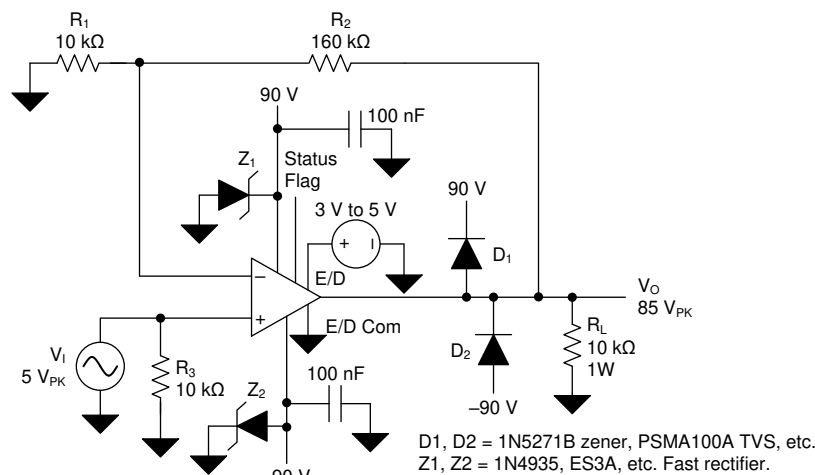

FIG 61. OPA462, High-Voltage Noninverting Amplifier,  $A_V = 17$  V/V
The OPA462 high-voltage op amp can be used in commonly applied op amp circuits, but with the added capability of allowing for the use of much higher supply voltages. A very common application of an op amp is that of a noninverting amplifier with a gain of 1 V/V or higher. FIG 61 shows the OPA462 in a noninverting configuration.
Figure 61 shows a noninverting circuit with a moderately high closed-loop gain ( $A_V$ ) of 17 V/V (24.6 dB). In this example, a 5- $V_{PK}$  ac signal is amplified to 85  $V_{PK}$  across a 10-k $\Omega$  load resistor connected to the output. The peak current for this application is 8.5 mA, and is well within the OPA462 output current capability. Higher output current, typically up to 30 mA, may be attained at the expense of the output swing to the supply rails. A  $\pm 90$ - $V_{DC}$  power supply is required for this configuration.
A potentially destructive mechanism is the back EMF transient that can be generated when driving an inductive load.  $D_1$ ,  $D_2$ ,  $Z_1$  and  $Z_2$  in Figure 61 have been added to the basic OPA462 amplifier circuit to provide protection in the event of back EMF. If the voltage at the OPA462 output attempts to momentarily rise above  $V+$ ,  $D_1$  becomes forward-biased and clamps the voltage between the output and  $V+$  pins. This clamp must be sufficient to protect the OPA462 output transistor. If the event causes the  $V+$  voltage to increase the power supply bypass capacitor,  $Z_1$ , or both, a Zener diode or a transient voltage suppressor (TVS) can provide a path for the transient current to ground.  $D_2$  and  $Z_2$  provide the same protection in the negative supply circuit.
The OPA462 noninverting amplifier circuit with a closed-loop gain of 17 V/V has a small-signal, –3-dB bandwidth of nearly 800 kHz. However, the large-signal bandwidth is likely of greater importance in a high-output-voltage application. For that mode of operation, the slew rate of the op amp and the peak output swing voltage must be considered in order to determine the maximum large-signal bandwidth. The slew rate (SR) of the OPA462 is typically 6.5 V/ $\mu$ s, or  $6.5 \times 10^6$  V/s. Using the 85- $V_{PK}$  output voltage available from the circuit in Figure 61, the maximum large-signal bandwidth is calculated from the slew rate formula. Equation 1, Equation 2 and Equation 3 show the calculation process.